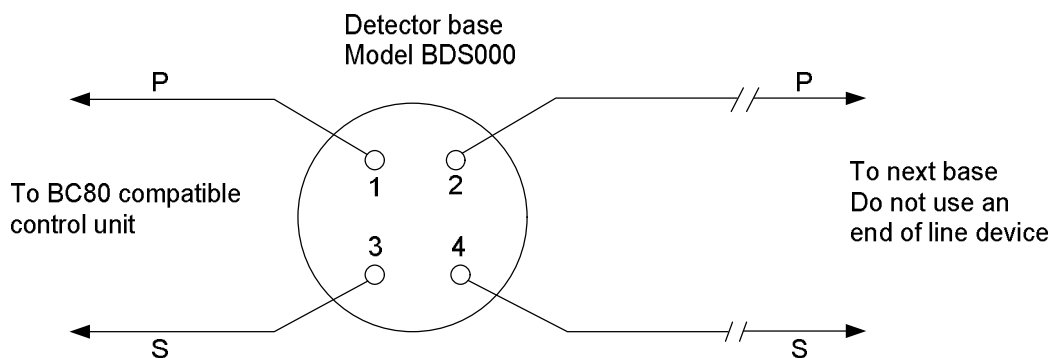

Figure 3 Wiring diagram for BDS000A
2. Make connections directly to the base terminals. Refer to Figure 3 for details.